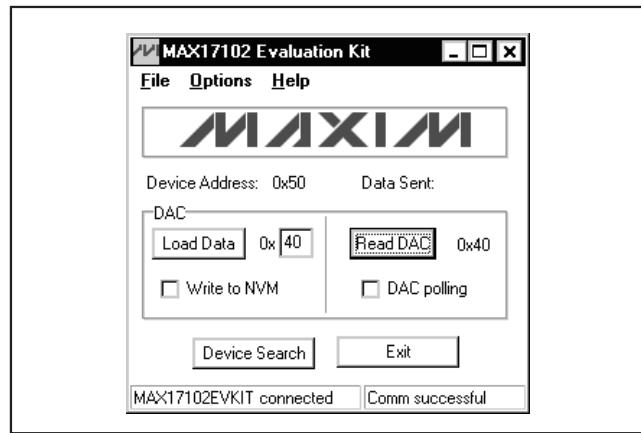
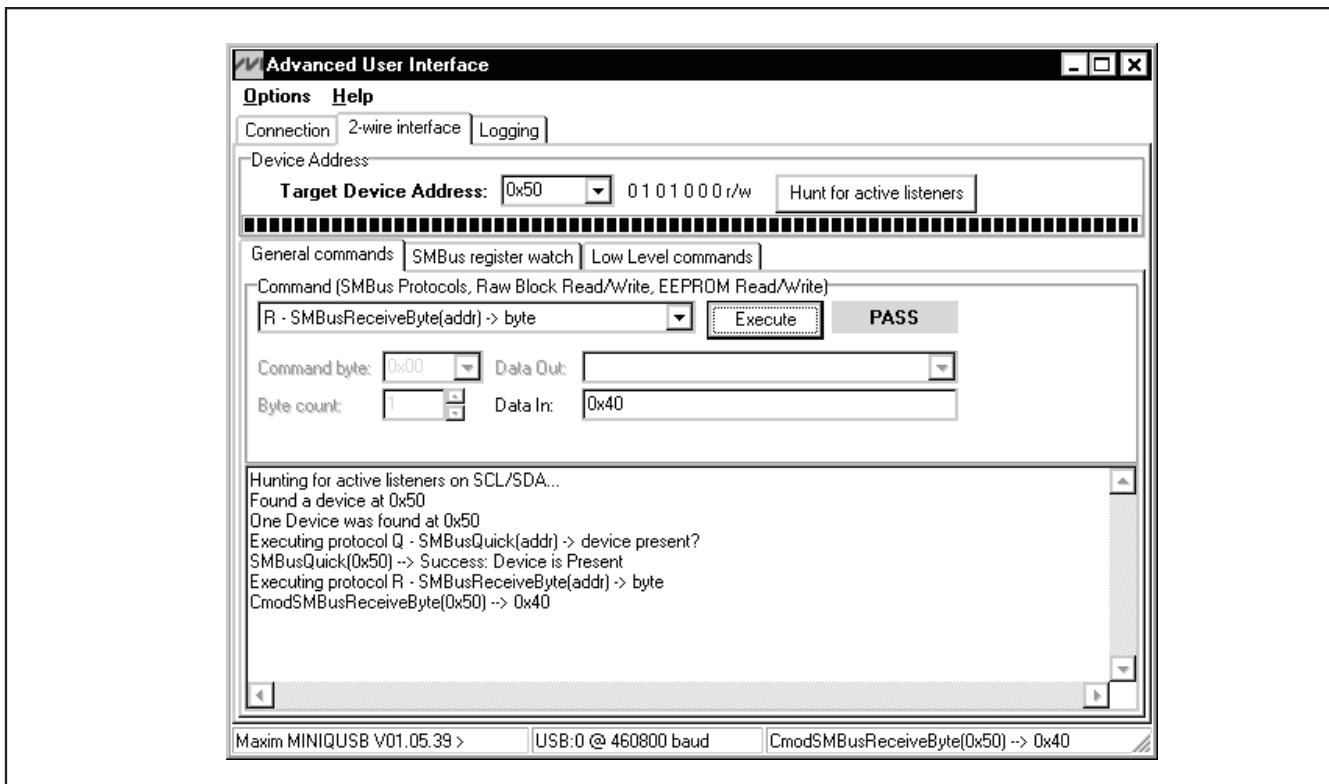

Figure 1. MAX17102 EV Kit Software Main Window
Figure 2. Advanced User Interface Window
- Start the EV kit software by opening its icon in the **Start | Programs** menu. The EV kit software main window appears, as shown in Figure 1.
main window (Figure 1) or through the **Advanced User Interface** window available by selecting the **Options | Interface (Advanced Users)** menu item from the menu bar. The **Advanced User Interface** window (Figure 2) includes a **2-wire interface** tab that allows for execution of the SMBusWriteByte(), SMBusReceiveByte(), and SMBusQuick() commands. See Table 1 for SMBus command details.
The **Command byte** combo box accepts numeric data in binary, decimal, or hexadecimal. Hexadecimal numbers should be prefixed by \$ or 0x. Binary numbers must be exactly eight digits. See Figure 2 for an illustration of this tool.